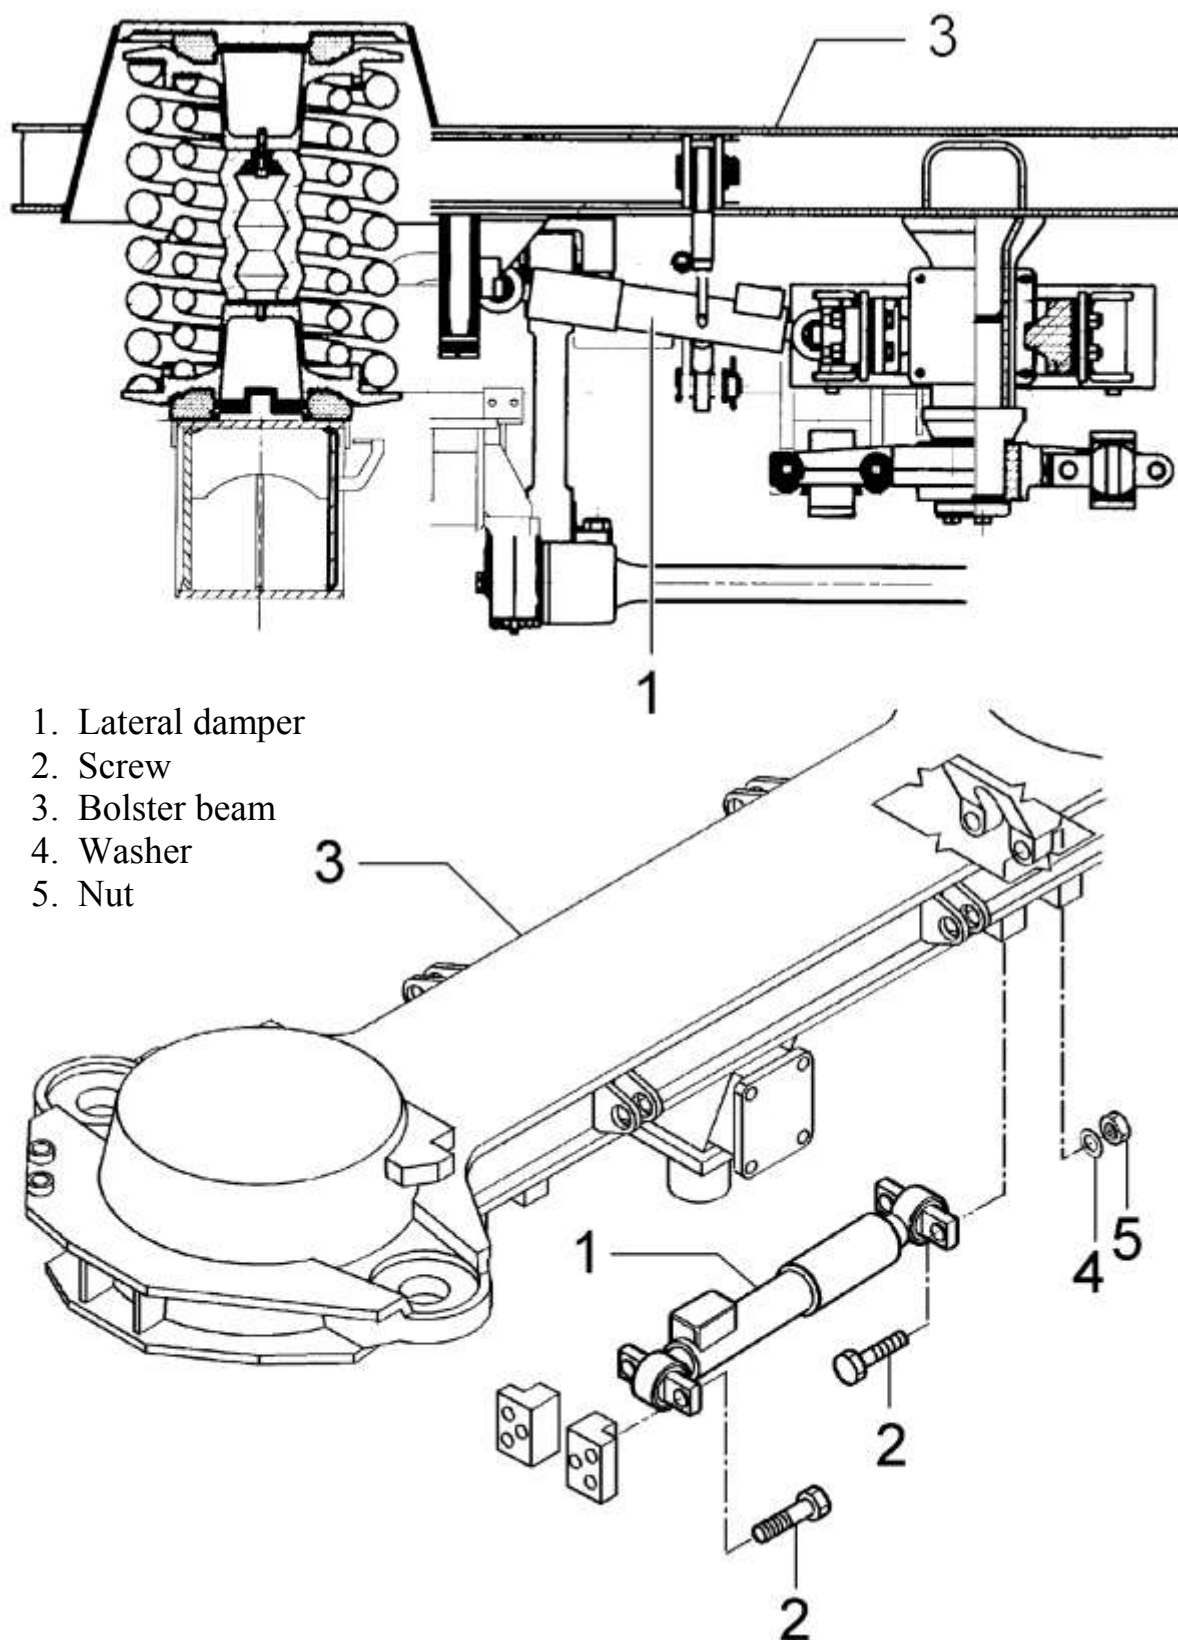

FIG. 4.21 Lateral Damper Removal
Remove the lateral damper (1 - FIG. 4.21) extracting the screws (2) which fix one end at the bolster beam (3) and the other to the frame. Recover the washers (4) and the nuts (5).